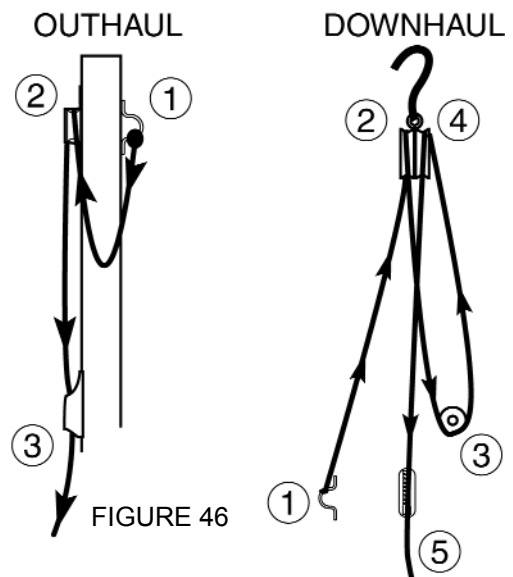

FIGURE 46
24.1 Attach the downhaul and outhaul assembly as shown below. (FIGURE 46)